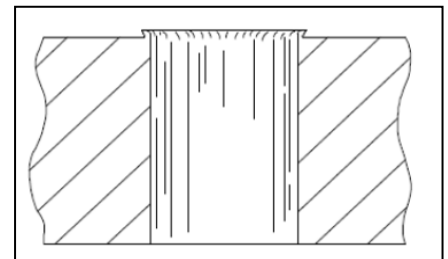

Figure 8 Feathered Burr
- f. Feathered Burr (see Figure 8):